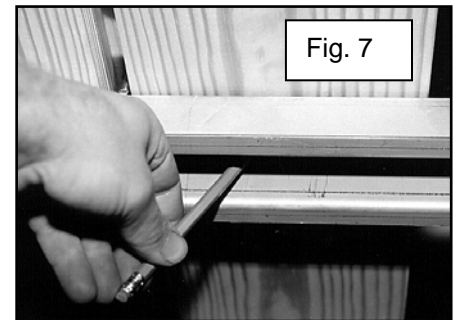

Fig. 7
17. The bed-to-frame holes will need to be drilled in these two 9-1/8" wide boards. Transfer the locations from the cross sill large holes onto the bottom of the wood boards. See figure 7. The front cross sill, second cross sill, and the rear cross sill, all have a frame spacing of 35". Mark the boards through the holes that are 35" apart. The third cross sill spacing is different and is 33-7/8" apart.